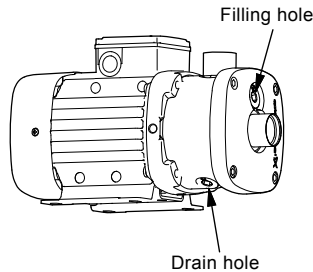

Fig. 10 Position of filling hole and drain hole
3. Remove the filling plug. See fig. 10.
Pumps which are not being used during periods of frost must be drained to avoid damage. Remove the filling and drain plugs from the pump. See fig. 10. Do not refit the plugs until the pump is taken into operation again.